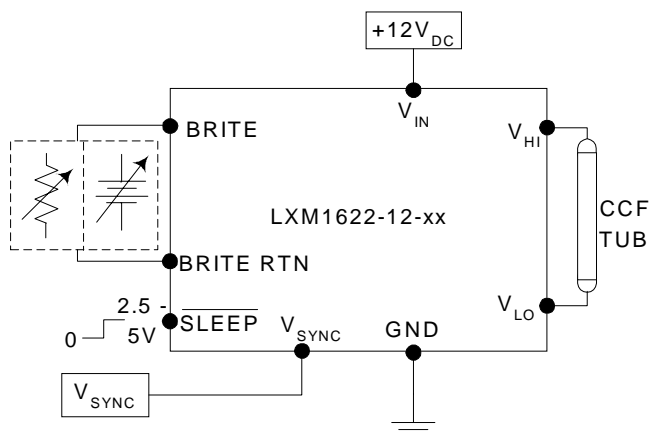
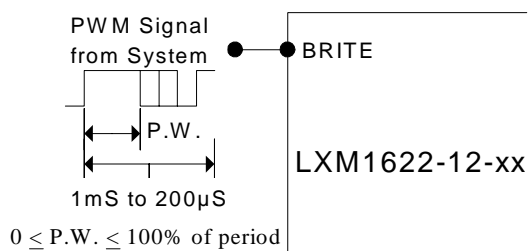

Figure 5 - Brightness Control
Figure 5A - PWM Brightness Control
- The Brightness control may be a voltage output DAC, or other voltage source as shown in Figure 5. A 2.5V to 5V Logic Level PWM signal from a micro-controller may also be used as shown in Figure 5A.